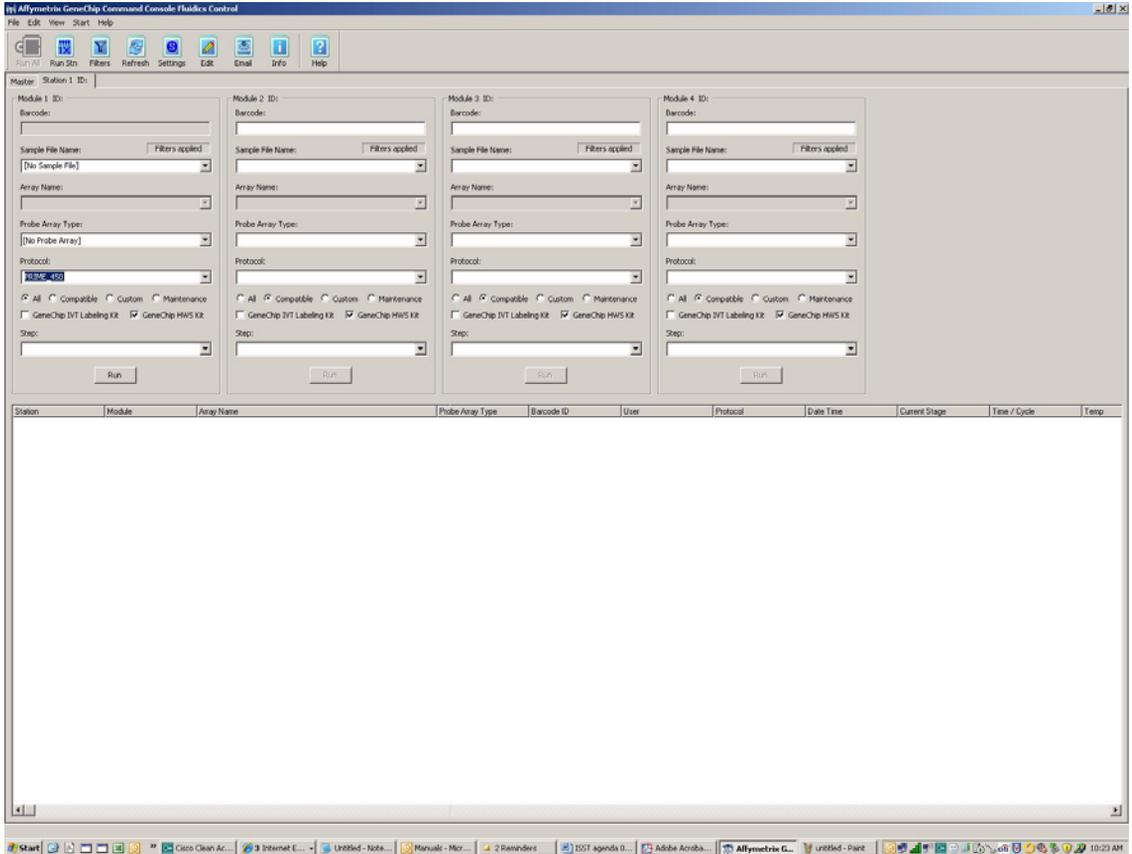

Figure 2.3
4. In the Select Protocols section of the Master controls, select **List Maintenance Protocols Only** (Figure 2.3).